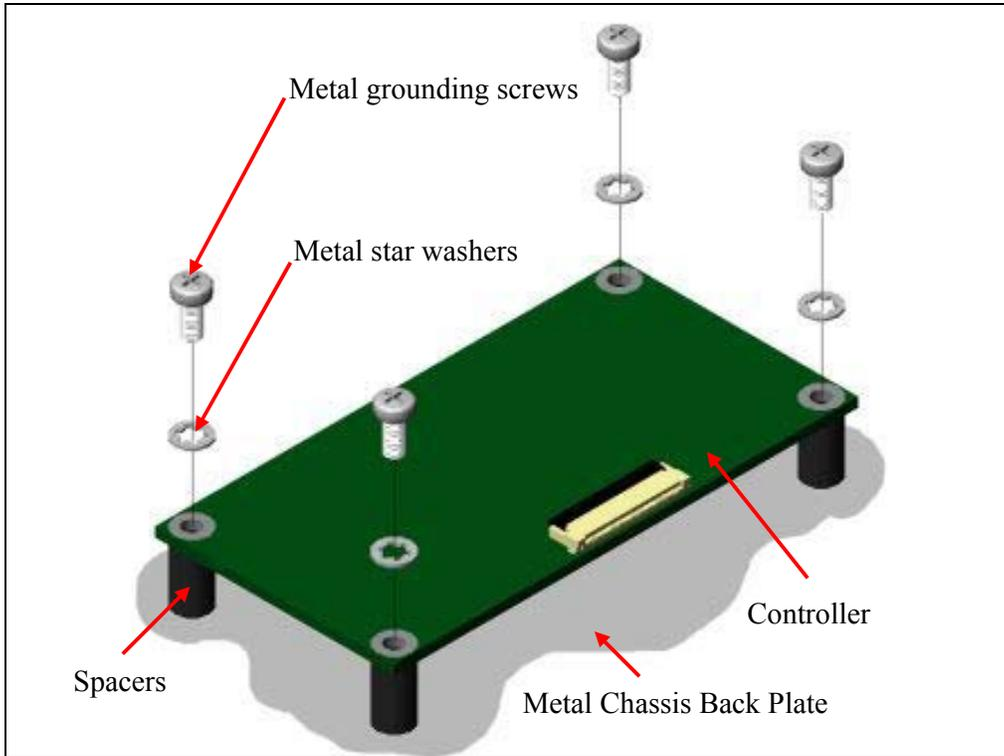

Figure 7: Controller PCB Card Mounted onto rear of LCD metal back plate
- Locate the controller in its desired mounting position using the four stand off posts. Use the four M3 screws and washers to connect the four PCB corner mounting holes to the LCD metal back plate, as shown in Figure 7. Take care not to short out any of the on board components near the mounting holes and ensure the PCB controller card is not shorted out on the LCD back plate.